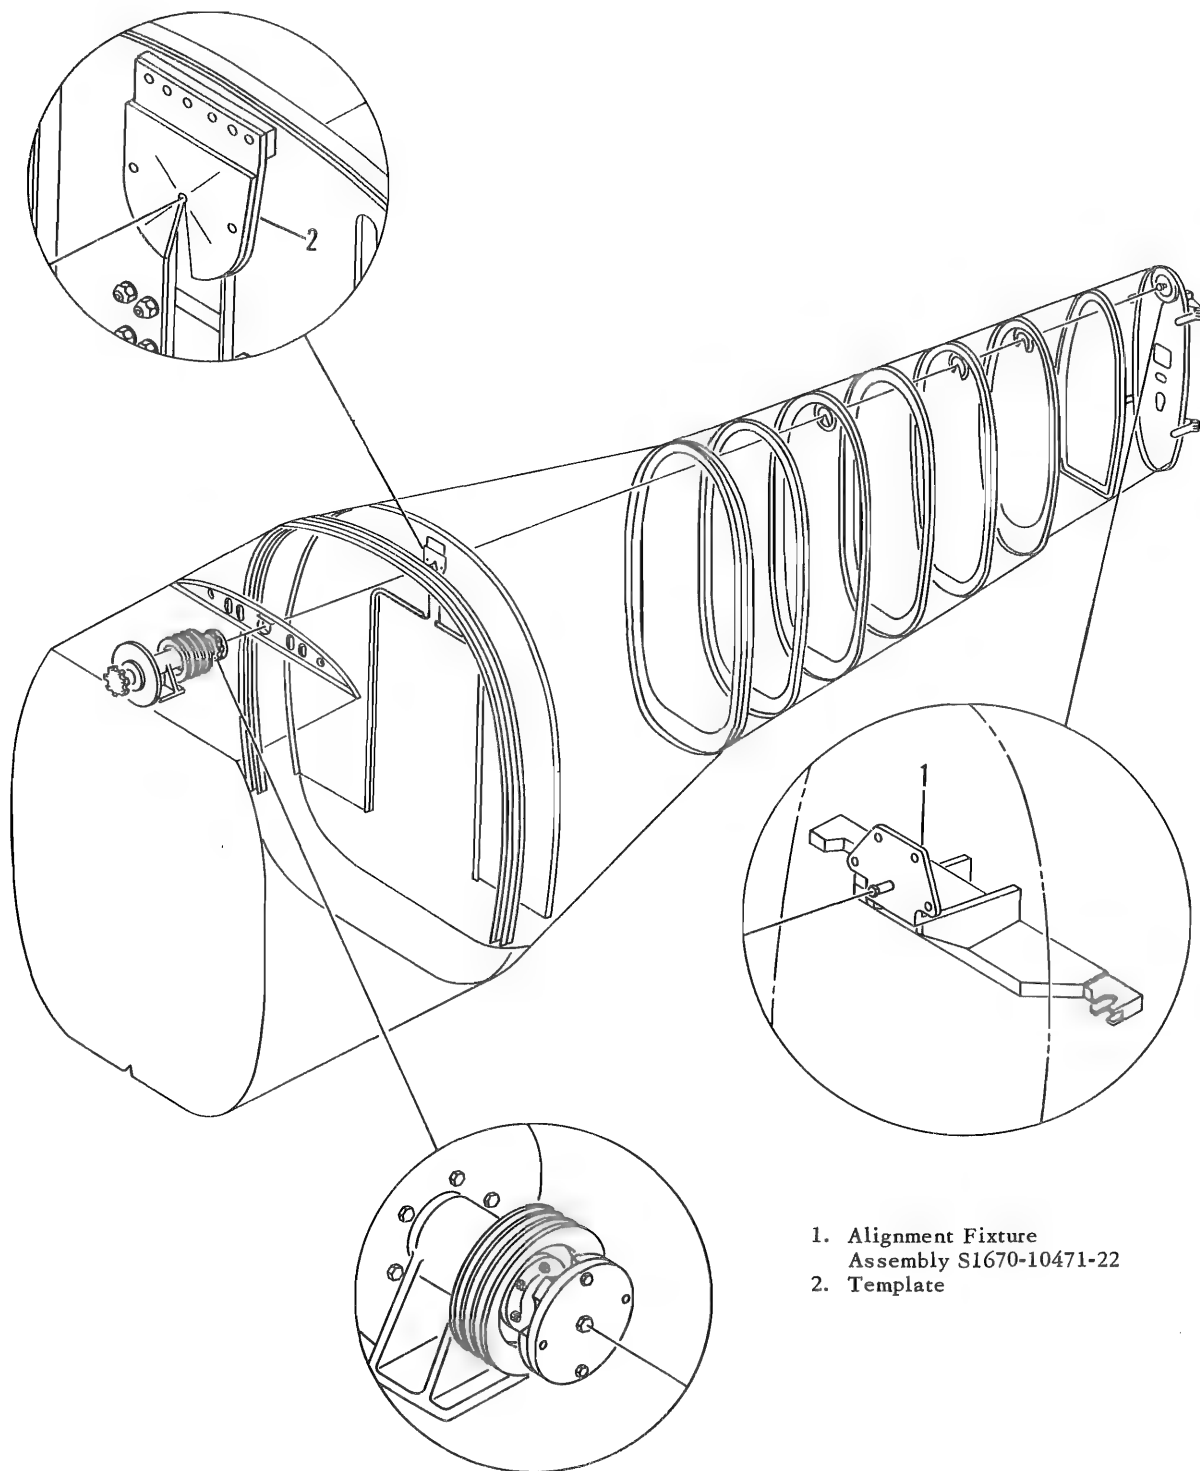

Figure 4-18. Checking Drive Shaft Alignment
- r. Remove locator from input coupling alignment fixture and install in its place locator assembly from alignment fixture assembly, part No. S1670-10471-22. (See figure 4-18.)
- t. If support brackets are attached to helicopter, use template to check brackets for proper alignment. Position dowel pins on template with upper two holes on each support bracket. Flat of template should be on topside, and wire or line must fall within, but not contact, radius at bottom of each V. (See figure 4-18.)